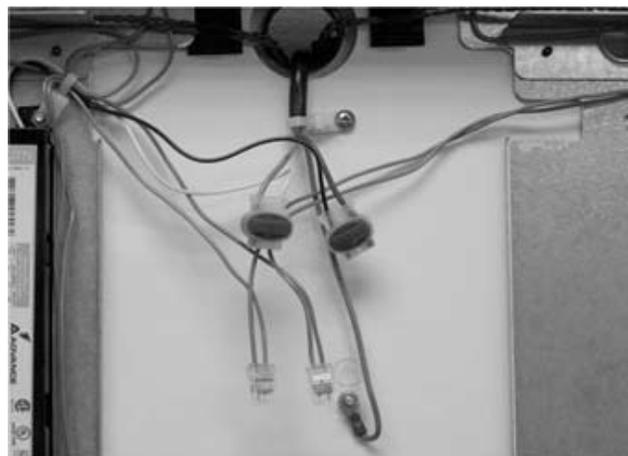

Figure 84.
- F. Wiring is now completed, see Figure 84.